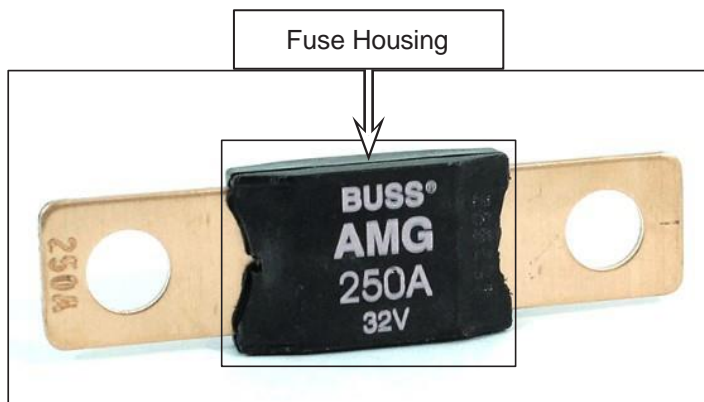

Figure 6 - Fuse N47759-250
- 1.20. Inspect the fuse for any visible sign of overheating on the fuse housing or any other significant damage. See Figure 6.